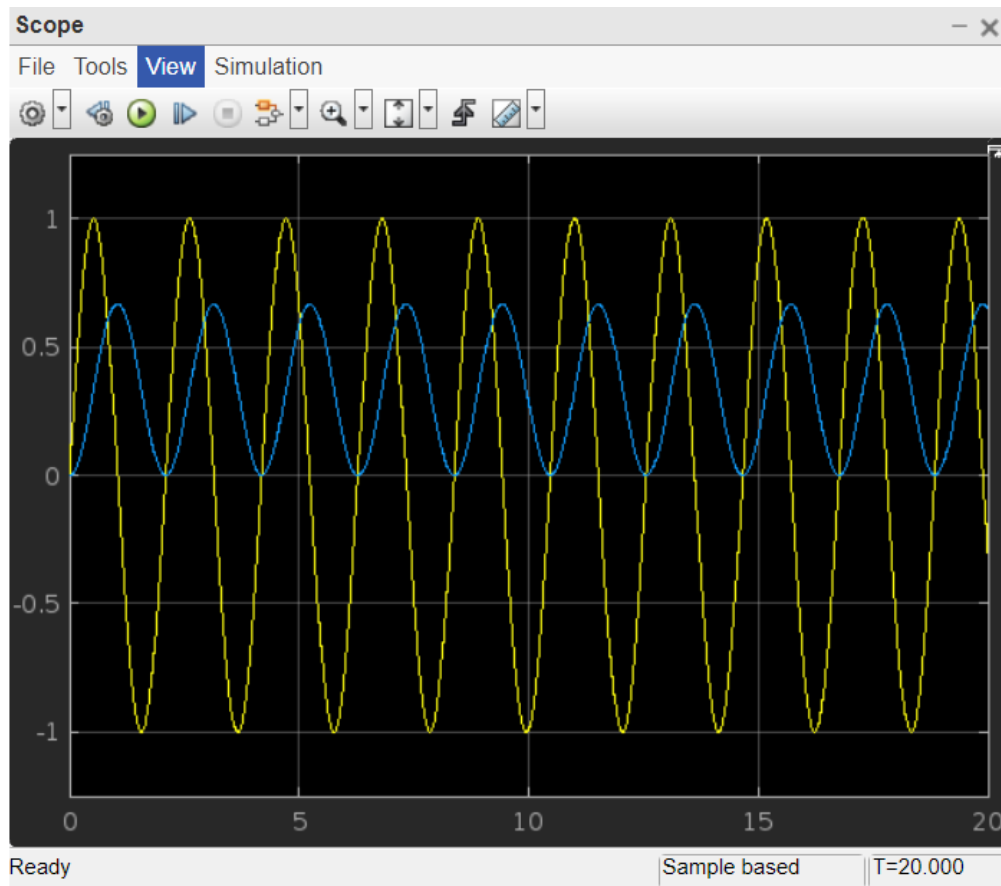

Figure 2.5: The Sine Wave and the Integration of the Sine Wave
6. Double-click the **Scope** block in the model window. The Scope window should display the simulation results as shown in Figure 2.5.